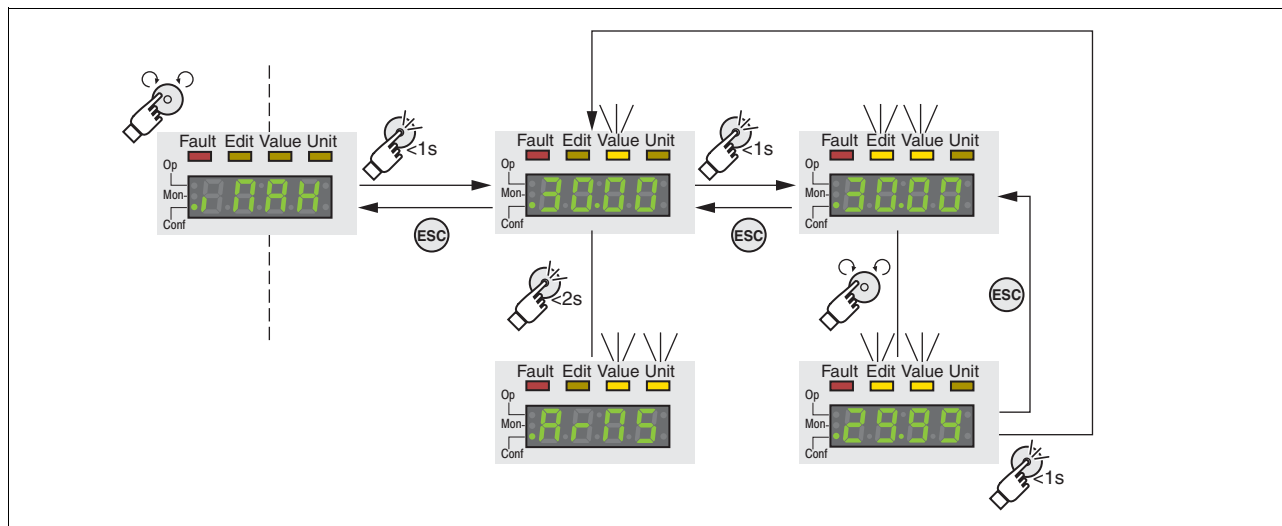

Figure 7.5 Integrated HMI, example of setting a parameter
- The parameter, *IRH* (iMax) is shown on the 7-segment display, see Figure 7.5.